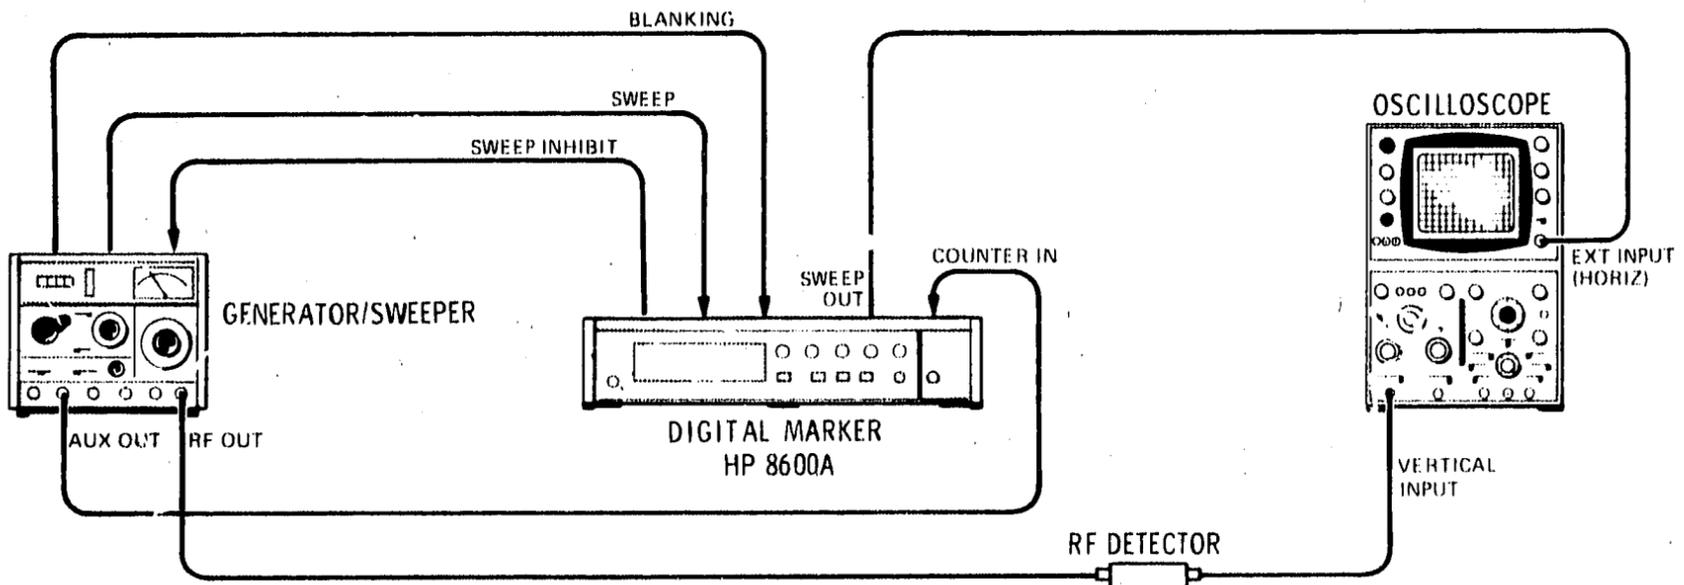

Figure 4-1. Marker Accuracy Test Setup
1. Connect the equipment as shown in Figure 4-1 and set the controls as follows: